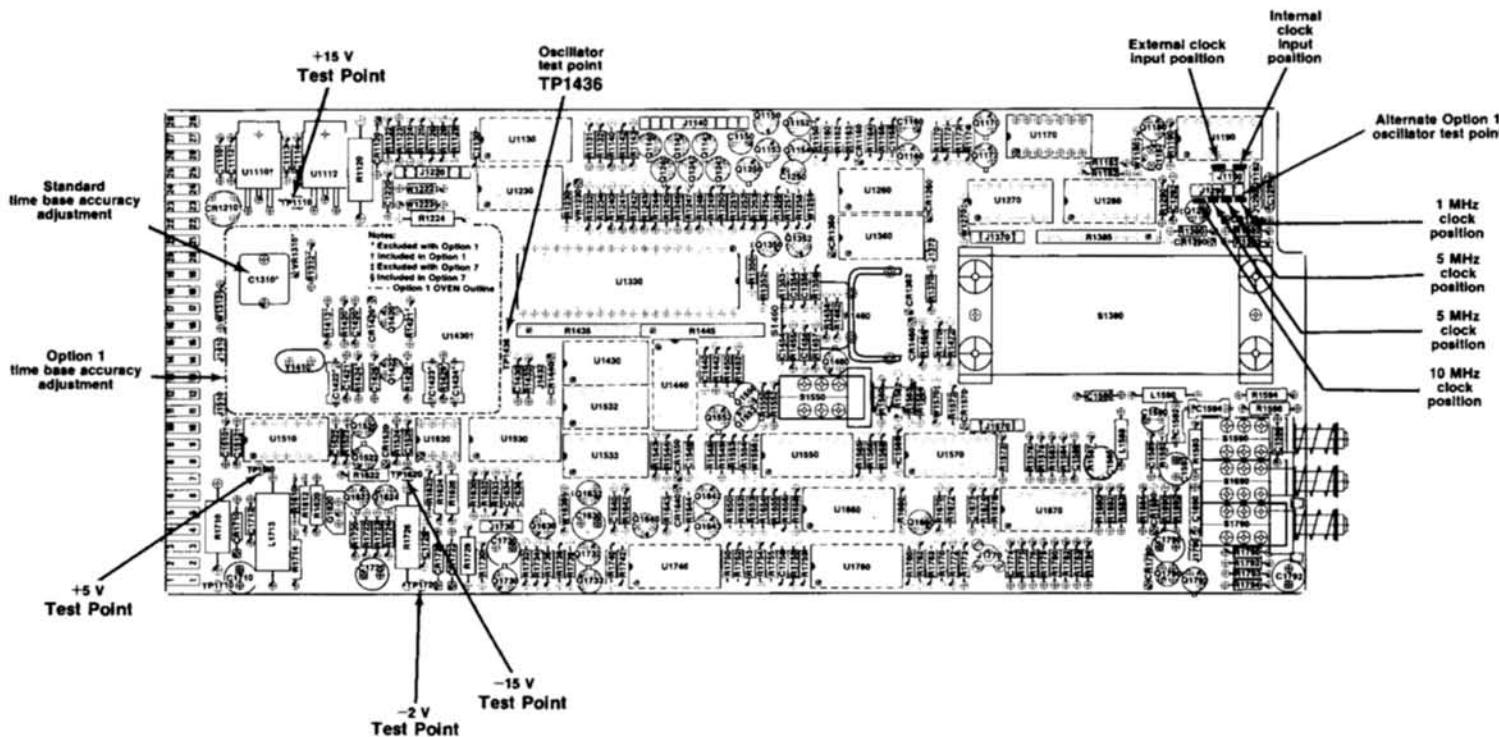

Fig. 4-1. Location of test points and adjustments on Main circuit board.
- a. Connect the digital voltmeter between each voltage test point and ground for the supplies listed in Table 4-2. See Fig. 4-1 for test point locations.
a. Connect the 10X probe to the vertical amplifier (real time) input connector; connect the probe tip to the oscillator test point, TP1436. See Fig. 4-1 for test point location.
g. Adjust—C1310, time base accuracy adj, slowly until the displayed time marks remain stable, horizontally. See Fig. 4-1 for adjustment location.